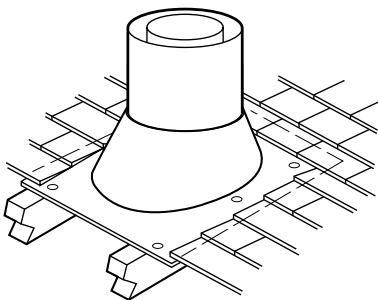

Figure 30
Step 7. Secure flashing by nailing along the perimeter into roof using 8d nails or equivalent. If shingled roof, slide upper end and sides of roof flashing under shingles (trim if necessary), seal the top and both sides of the flashing to the roof with roof caulking. Cover nail heads with roof caulking (**Figure 30**).